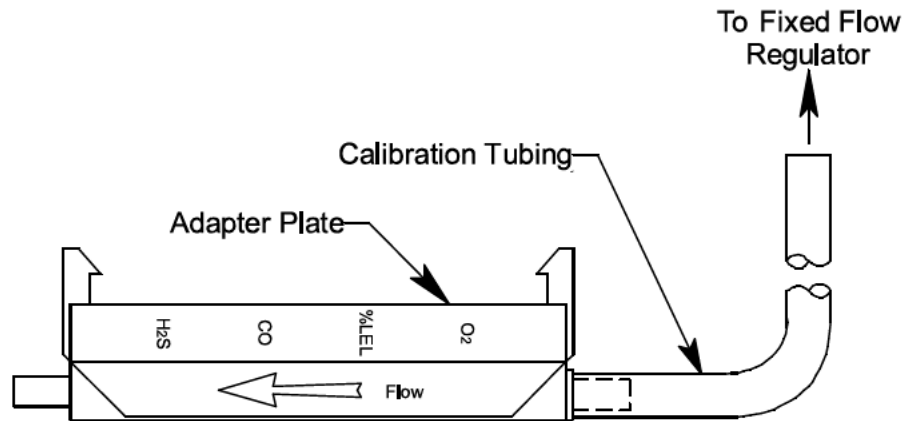

Figure 9 : Calibration Kit Assembly
3. Use the sample tubing to connect the calibration adapter plate to the regulator. Attach the tubing to the adapter plate on the inlet side as shown below in Figure 9